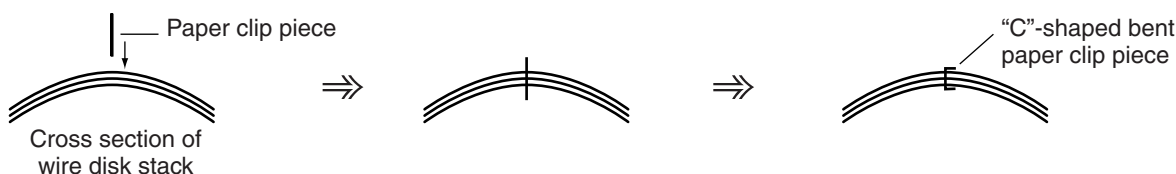

Figure 2.
9. Insert this paper clip piece through the center of the wire disk stack so that it goes through all three disks. See Figure 2.
10. Use a needle-nose pliers to bend the inserted paper clip piece into a "C" shape to secure the wire disks together. See Figure 2.